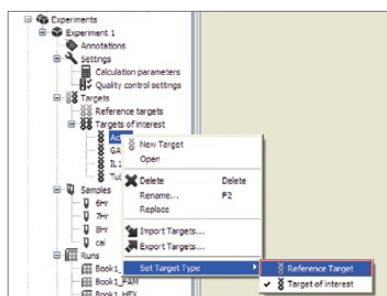

Fig. 12. Designating a Reference Target.
- Right click the name of the target that you want to use as a reference and select **Set Target Type > Reference Target** (Figure 12). qbase^{PLUS} software moves the target from the list of Targets of Interest to the list of Reference Targets.